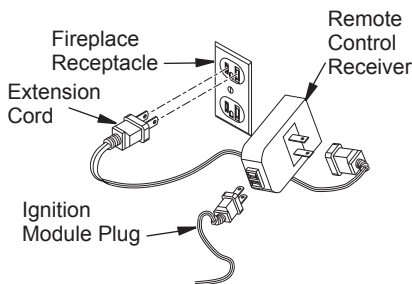

Figure 47 - Connecting WRC Remote Control Electronic
2. The WRC model receiver does not require a battery. The receiver can be installed by first plugging the short extension cord into the fireplace receptacle. Then plug the receiver unit into the extension cord. Finally plug the ignition module plug into the receiver unit (see Figure 47).